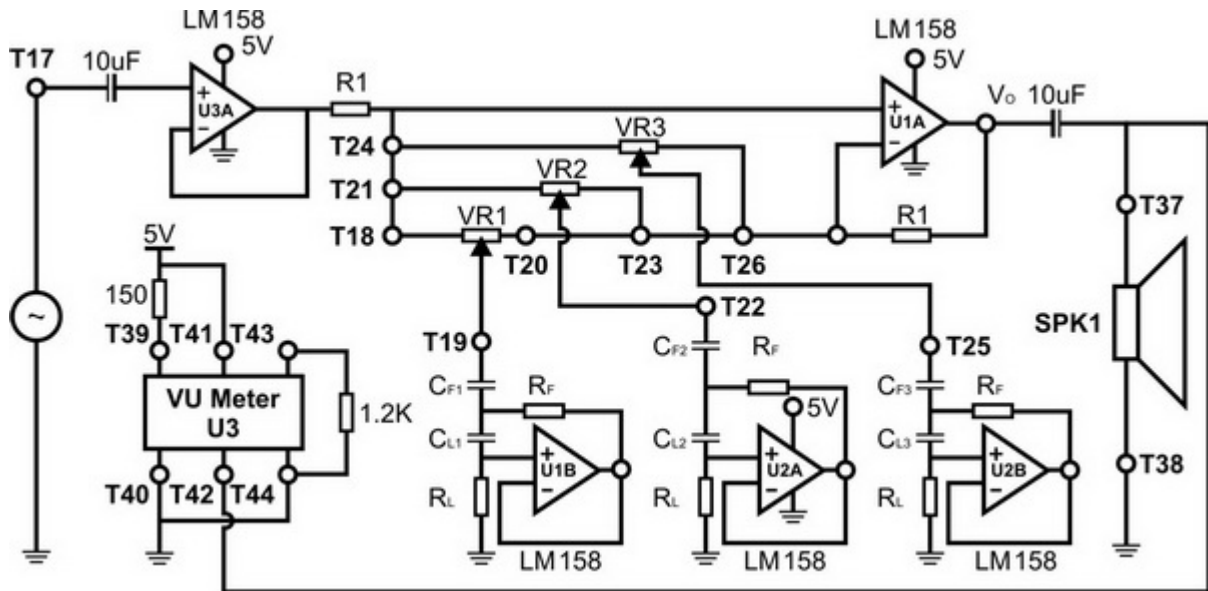

Figure 6 – Schematic Diagram of the 3-Band Gyrator-Based Equalizer with VU Meter
2. Build a 3-band gyrator-based equalizer with UV meter by following the schematic connections as shown in Figure 6 on the breadboard of the ME3100 Analog Circuit Design kit. Refer to the appendix for the pin layout of op-amp **LM158**.
4. Figure 6 shows a 3-band equalizer based on a single variable gain amplifier using, the gyrator-based bandpass filter. The resonant frequencies of the filter are **250Hz**, **1 kHz**, and **4 kHz**.
6. With all the connections properly connected as shown in Figure 6, configure the power supply as described in Section 4.1 and turn it on. The red LED **D1** on the ME3100 Analog Circuit Design kit will blink for a moment.